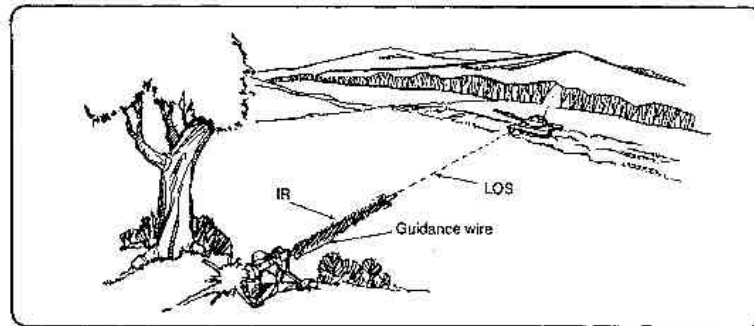

Figure 1-1. Day tracker line of sight.
(1) The day tracker generates signals that are sent by wire to the control system of the missile. The missile control system fires the appropriate rocket thrusters to keep the missile heading along the gunner's LOS. (Figure 1-1).